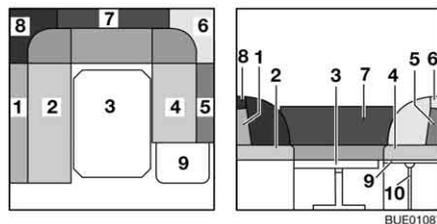

Fig. 98 During conversion
- Place support (Fig. 98,10) into the holder on the bedding box extension.
- Remove the back cushions (Fig. 98,1, 5, 6, 7 and 8) and lay them aside.